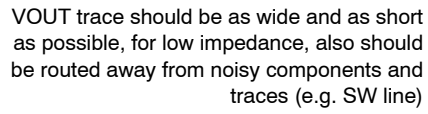

Figure 22. Top Layer
1. The input capacitor (C_{IN}) should be connected as close as possible to the VIN and GND pins. Connect to VIN and GND using only top metal. Do not route through vias (see Figure 22)
2. Place the inductor (L) as close as possible to the IC. Use short wide traces for the main current paths